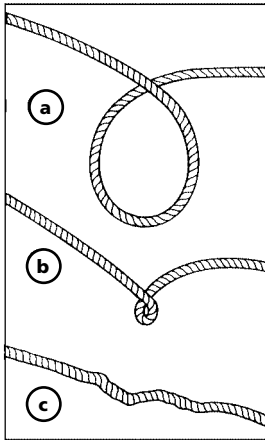

Figure 11
3. PRÉVENEZ LES BOUCLES. (Voir la figure 11)